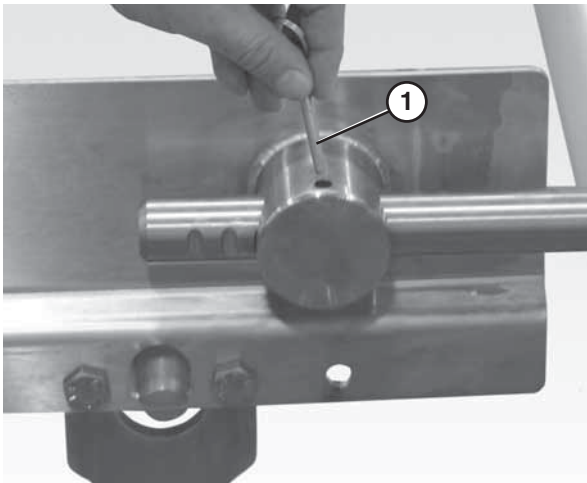

Figure 47
10. Insert the pull pins (**Figure 47, item 1**) on the tension end of the conveyor.